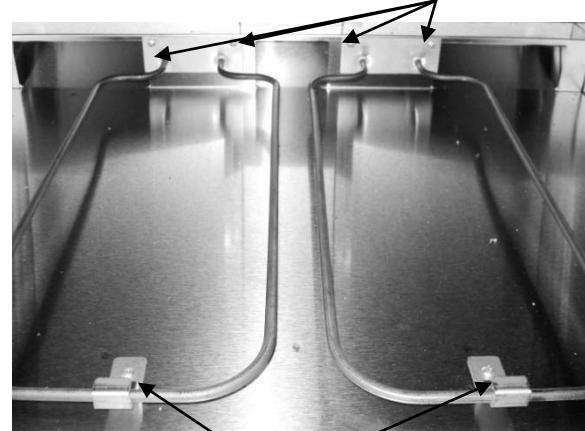

Fig. 18
3. Remove the two (2) retaining screws that hold each element to the mounting plate and the one (1) screw for the element clip. (Fig. 18)